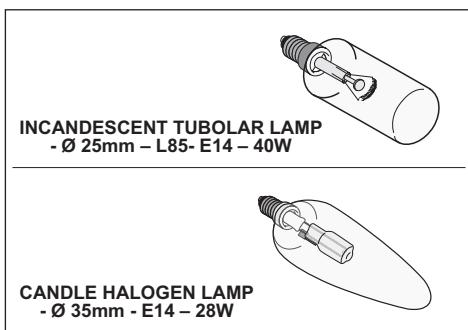

Fig.19
• **Replacing the halogen/incandescent lamps (Fig.19):**